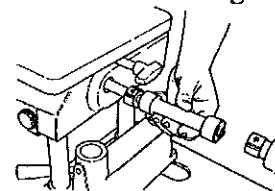

Fig.E-2
5. Place the power coupler (71) onto the Strip Sander's drive shaft hub, as in Fig.E-2.